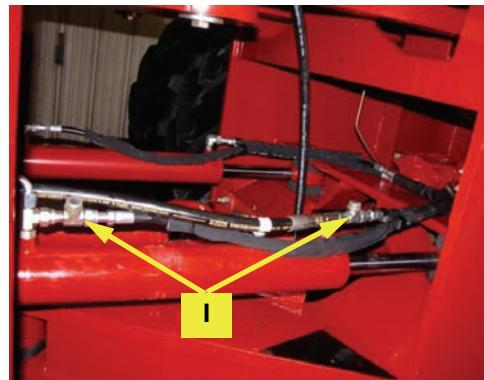

Figure 6b: Installed steering run-tees
- Install the run-tees **I** to the steering lines at each end of the steering cylinder (Figure 6b).